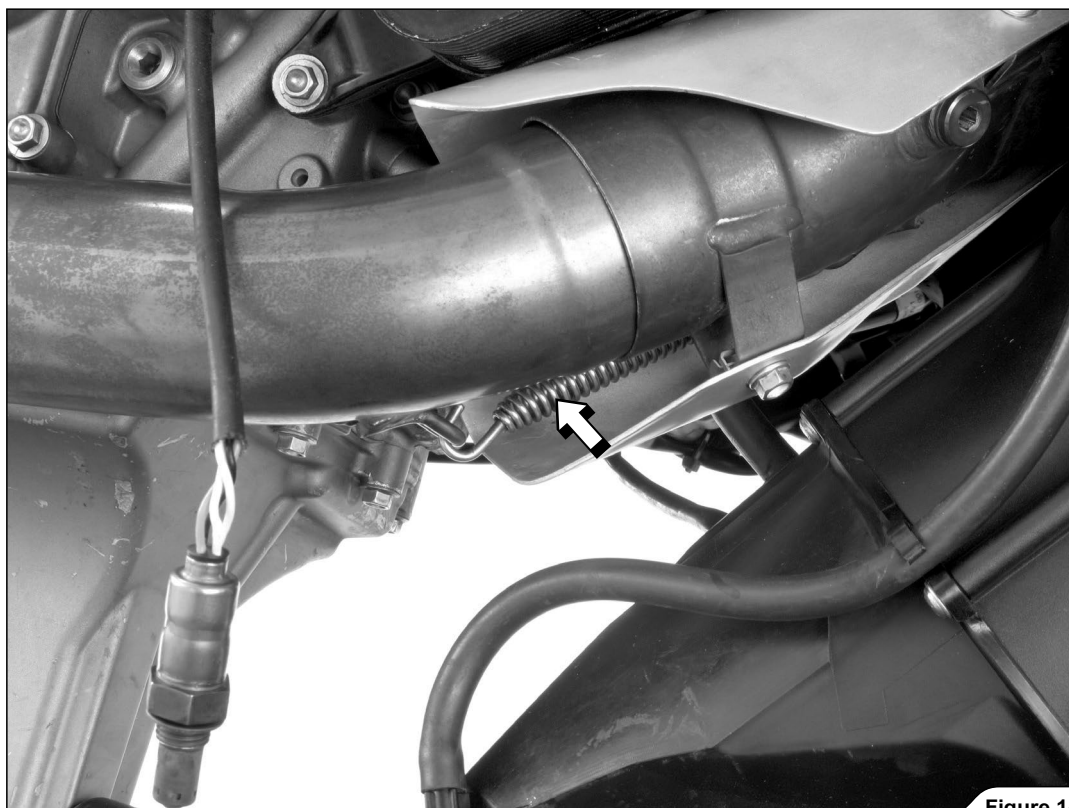

Figure 14
4. Unhook the marked front header's spring (Figure 14).